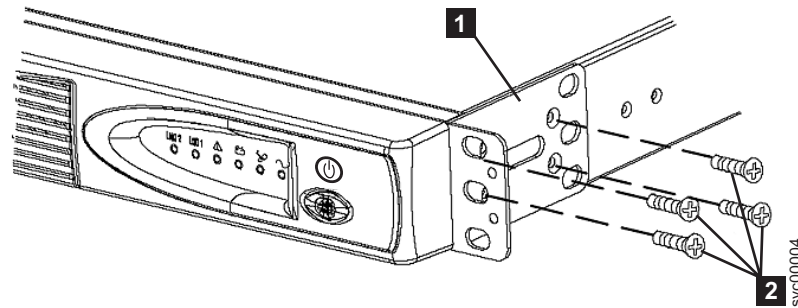

Figure 25. Installing the support rails for a 2145 UPS-1U into the rack
2. Attach the long side of a mounting bracket **1** to each side of the 2145 UPS-1U using four M3 × 6 screws **2** for each bracket. See Figure 25.